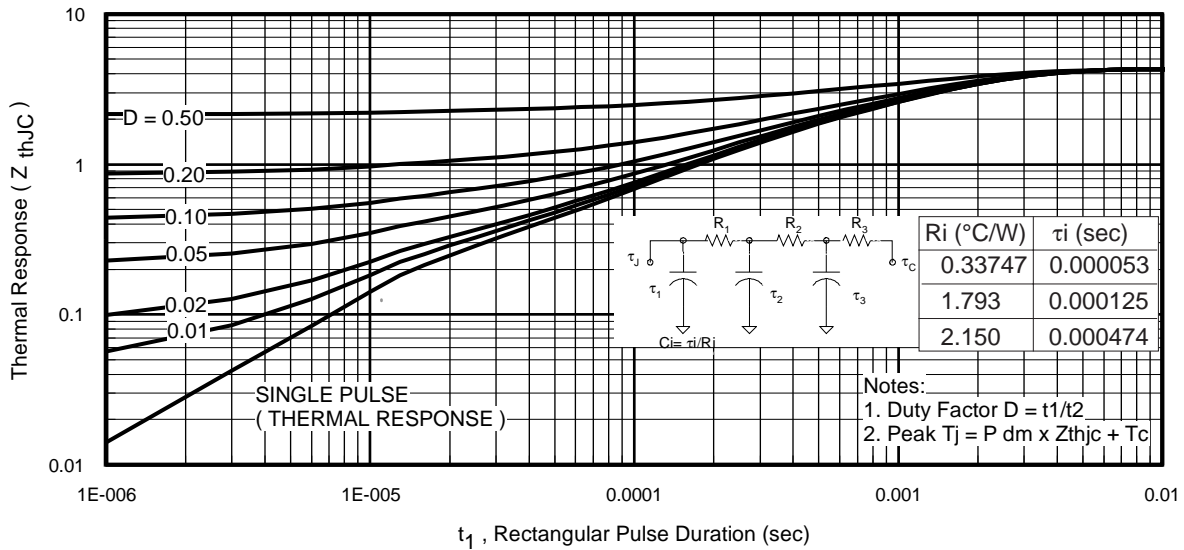
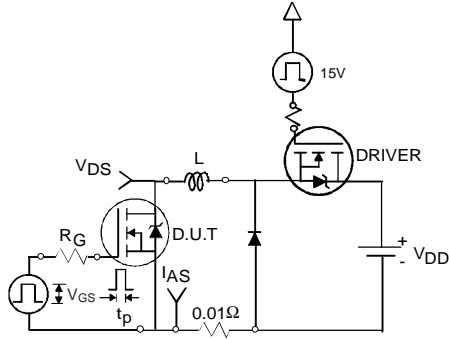

Fig 11. Maximum Effective Transient Thermal Impedance, Junction-to-Case
Fig 12a. Unclamped Inductive Test Circuit
3. Equation below based on circuit and waveforms shown in Figures 12a, 12b.
$Z_{thJC}(D, t_{av})$ = Transient thermal resistance, see figure 11)
- ① Repetitive rating; pulse width limited by max. junction temperature. (See fig. 11).
- ② Limited by T_{Jmax} , starting $T_J = 25^\circ\text{C}$, $L = 1.29\text{mH}$, $R_G = 25\Omega$, $I_{AS} = 5.2\text{A}$, $V_{GS} = 10\text{V}$. Part not recommended for use above this value.
- ③ Pulse width $\leq 1.0\text{ms}$; duty cycle $\leq 2\%$.
- ④ C_{OSS} eff. is a fixed capacitance that gives the same charging time as C_{OSS} while V_{DS} is rising from 0 to 80% V_{DSS} .
- ⑤ Limited by T_{Jmax} , see Fig.12a, 12b, 15, 16 for typical repetitive avalanche performance.
- ⑥ This value determined from sample failure population. 100% tested to this value in production.
- ⑦ When mounted on 1" square PCB (FR-4 or G-10 Material). For recommended footprint and soldering techniques refer to application note #AN-994